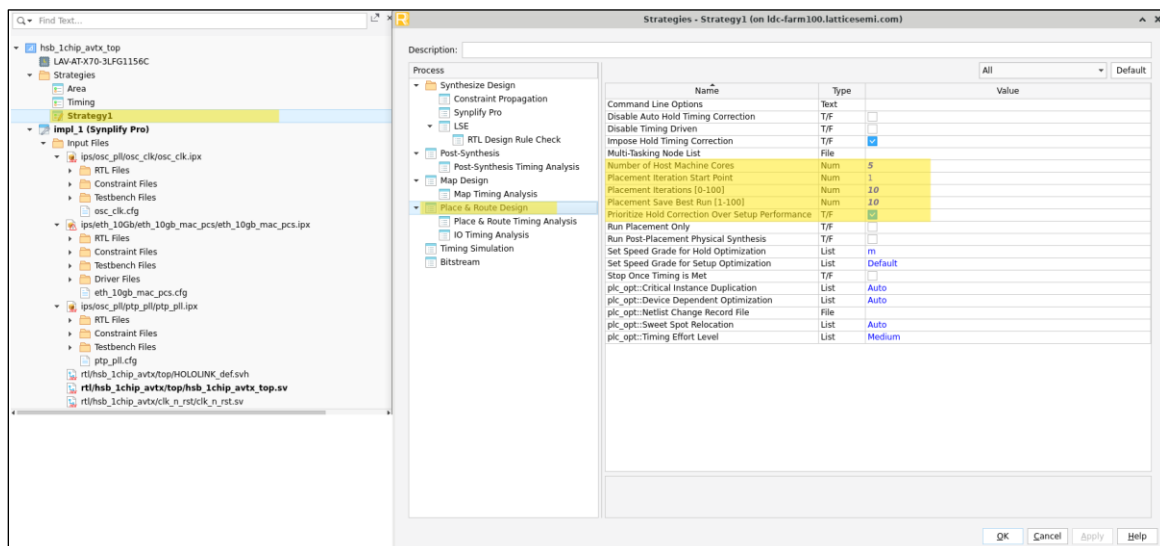

Figure 5.6. Place and Route Design's Strategy
4. Modify the Place and Route design strategy details under **Strategy1 > Place & Route Design**. Refer to Figure 5.6. The seed run count has been increased to 10 for this reference design, allowing you to select the reference design with the best place-and-route result and the best STA report. Specify multiple seeds for placement and routing during implementation.